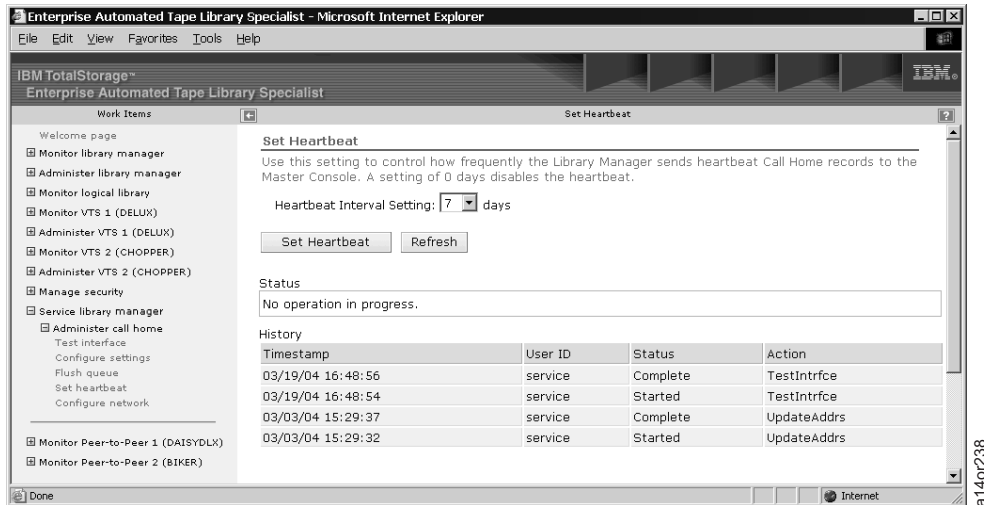

Figure 57. 3494 ATL Web Specialist - Set Heartbeat
1. From the “Administer call home” list on the Web Specialist screen (Figure 53 on page 43), click **Set Heartbeat** to see Figure 57 on page 46. If you are prompted for a userid and password, use the default values of **service** for the userid and **service** for the password. These values can be changed by the 3494 ATL system administrator.